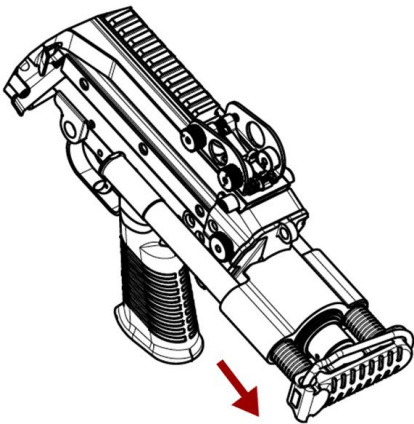

Figure 5
1. Grab the buttstock frame at the buttplate and pull it firmly and fully the rear. See Figure 5.